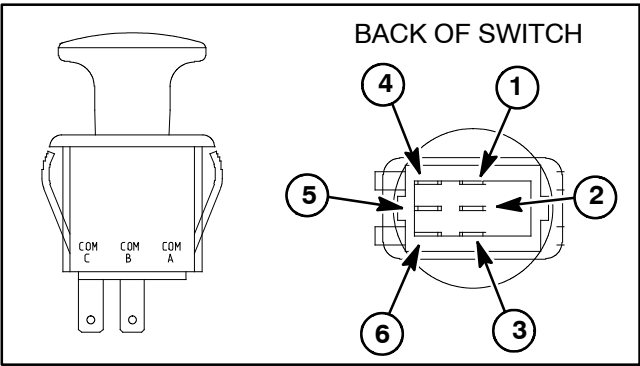

Figure 21
The cutting unit drive switch is located on the control panel and allows the decks to be engaged or disengaged. Along with additional switches in the interlock system, the cutting unit drive switch controls the solenoid valve on the hydraulic manifold. The cutting unit drive switch used on machines with serial number above 314000000 is a six (6) terminal switch that is illustrated in Fig. 21.
The switch terminals are marked as shown in Fig. 21. The circuitry of the ignition switch is shown in the chart to the right. With the use of a multimeter (ohms setting), the switch functions may be tested to determine whether continuity exists between the various terminals for each position. Verify continuity between switch terminals.